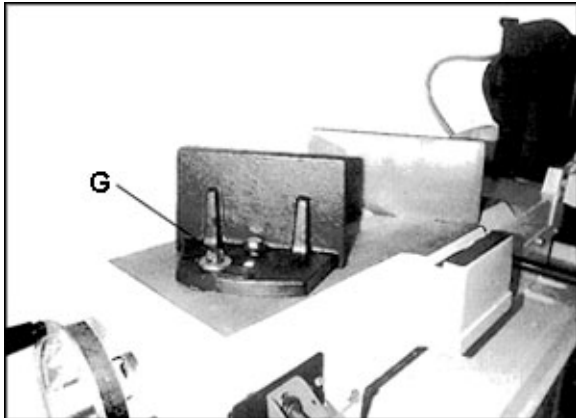

Figure 8-18: vise positioning (712 only)
4. Adjust floating vise parallel to fixed vise by loosening bolt (G, Figure 8-18), adjusting to parallel, and tightening bolt.